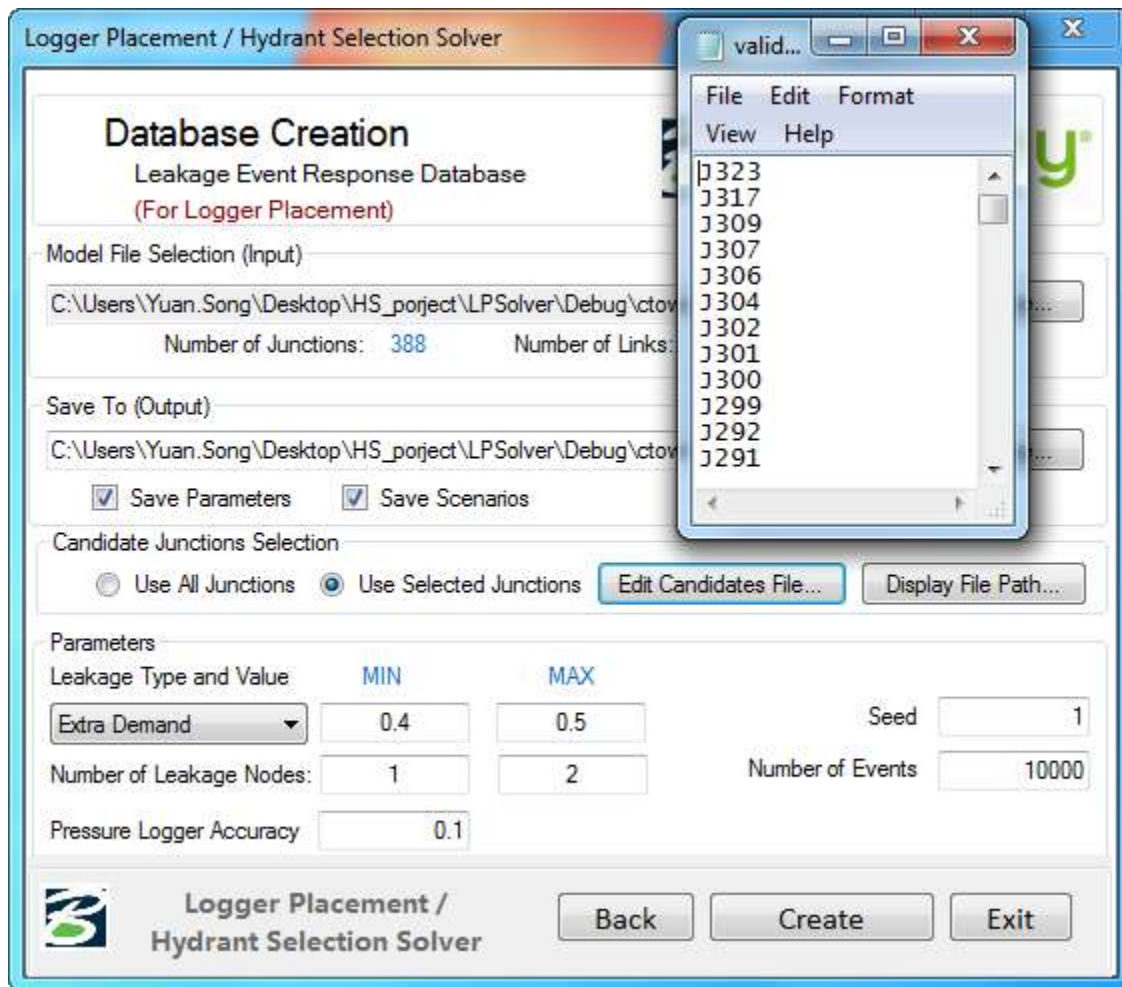

Figure 4 <Database Creation> page - edit candidate junctions
If a new logger placement evaluation database is required to be created on <Database Creation / Selection> page, <Database Creation> page shows as in Figure 3 and Figure 4. The page asks for input of user to all required parameters for creating new evaluation database.
- 3) **Candidate Junction Selection.** By default, all junctions in the model are used as candidate locations for pressure loggers. If there are junctions that cannot be used to install pressure logger, user can remove them from candidate locations by selecting <Use Selected Junctions>. Then two new buttons will appear which help user edit the candidate locations as shown in Figure 4.